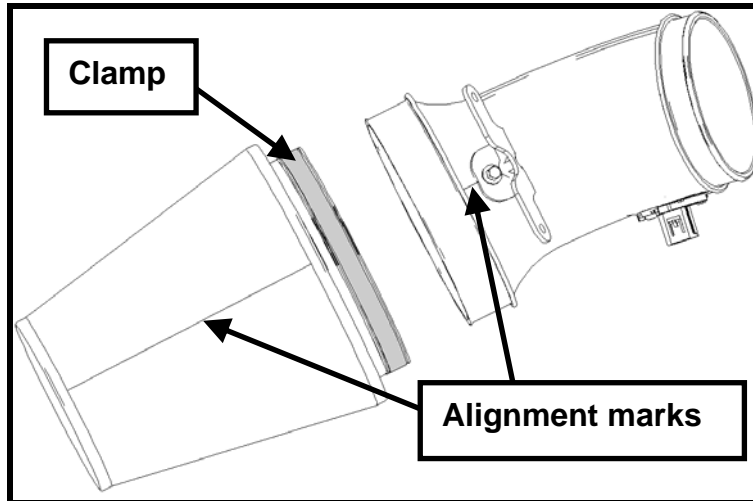

Fig. 30
**NOTE:** Align the metal strip on the air filter with the alignment mark on the clean air tube (See Fig. 30).